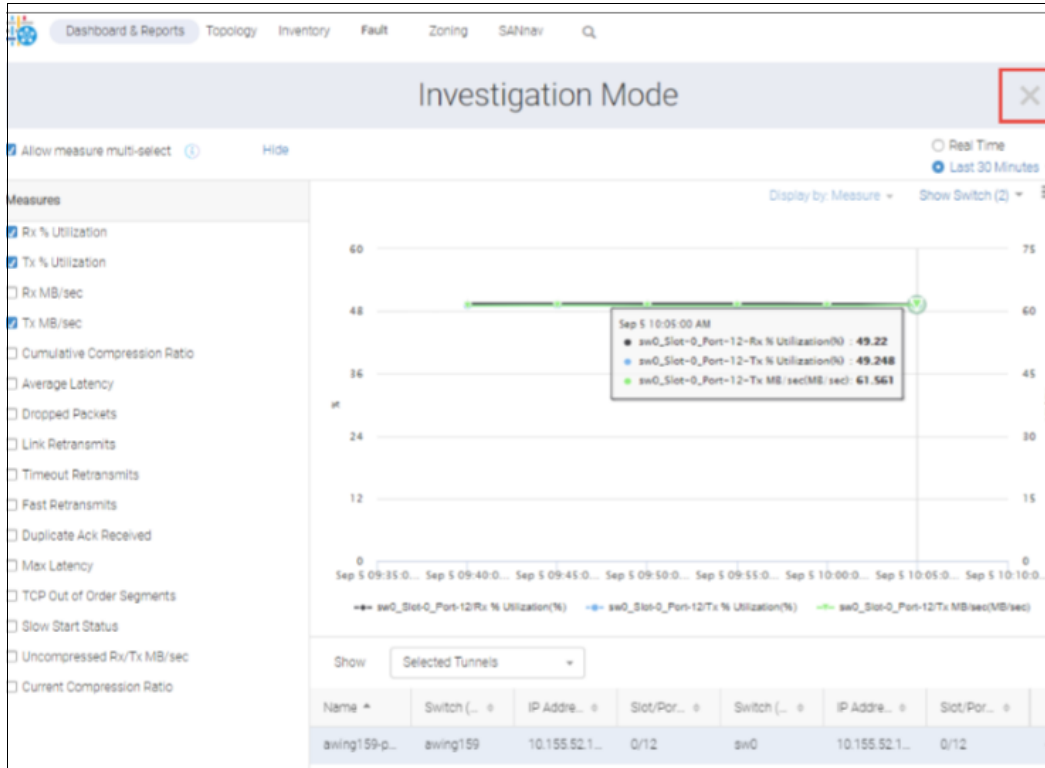

Figure 9-28 Investigation Mode dialog for a tunnel
- Using Investigation mode, you can see trends over time. Figure 9-28 on page 165 shows the Investigation Mode dialog for a tunnel. Click the **X** in the upper-right corner of the window to return to the dashboard view.